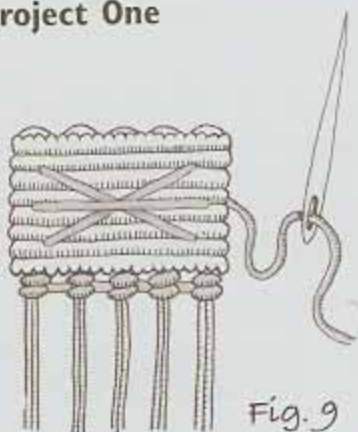

Fig. 9
8. Flip earring to the front and sew through the 2nd opening from the left in the same row passing the **Runner** horizontally over the center of the "X" (see Figure 9).